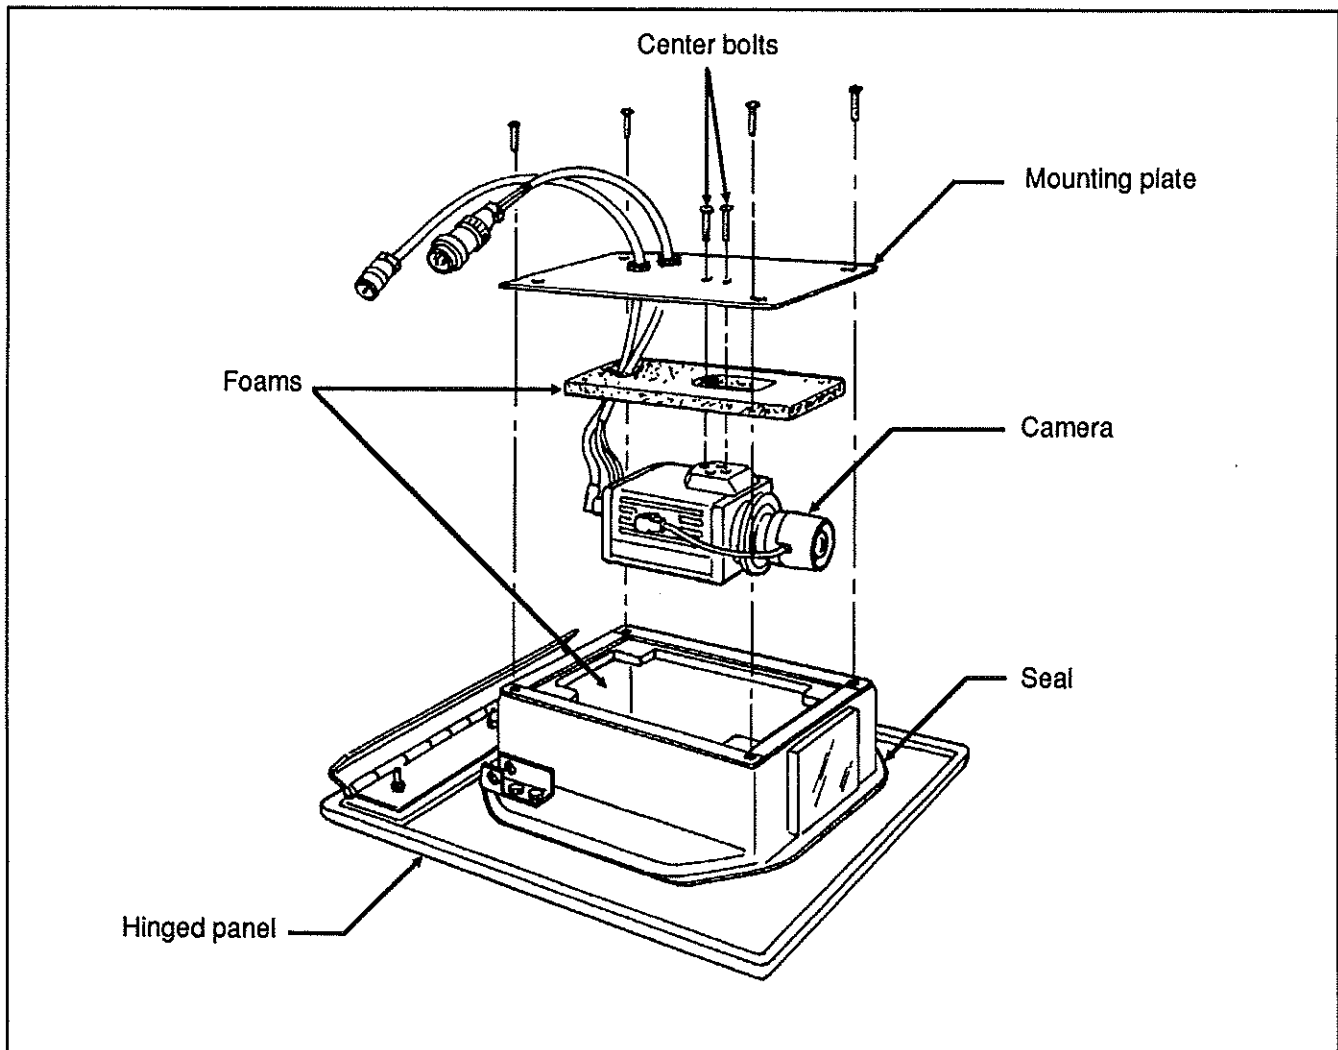

Fig. 5 - Back-up camera disassembly
7. Remove the four bolts retaining the camera mounting plate to its enclosure (see fig. 5).